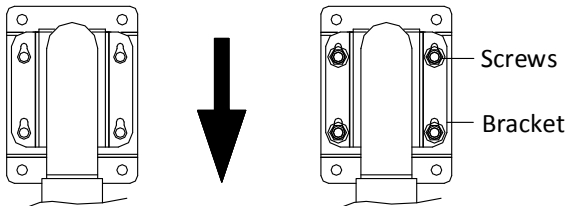

Figure 2-9 Fix the Installation Plate
3. Fix the installation plate and insert M10 \times 80 expansion screws into the screw holes, as shown in Figure 2-9.